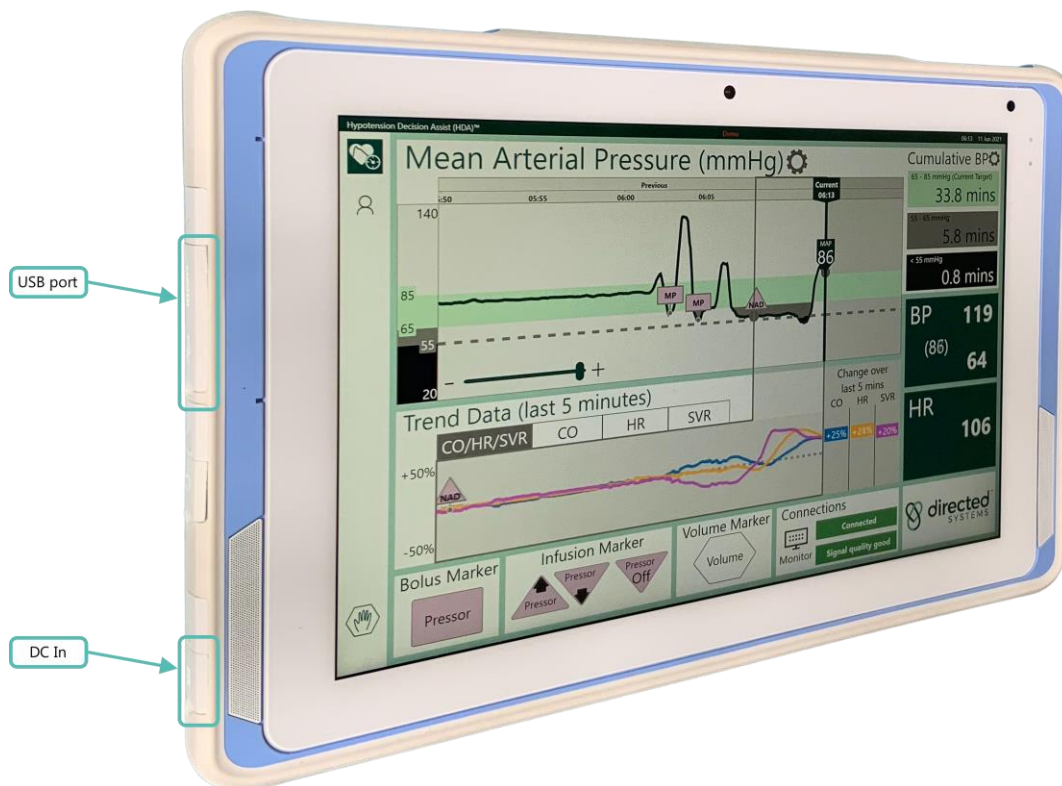

Figure 8: Inputs and Outputs on Advantech Medical Computer
Inputs and outputs on the Touch Screen Computer are detailed in Figure 8 and 9 depending on the model ordered.
2. An arm and pole clamp should be attached to the VESA adapter (see Figure 8).
Computer and to the RS232 port socket on the Philips Monitor (see Figure 8).
5. GE Monitors– the GE serial cable should be connected to the COM1 serial port on the Touch Screen Computer and to the USB port socket on the GE Monitor (see Figure 8).
- a. Connecting via serial cable: the Philips serial cable should be connected via the serial cable to the serial port on the Tablet's dock and to the RS232 port socket on the Philips Monitor (see Figure 8).
4. GE Monitors– the GE serial cable should be connected via a USB-serial adapter and serial cable to the serial port on the Tablet's dock and to the USB port socket on the GE Monitor (see Figure 8).